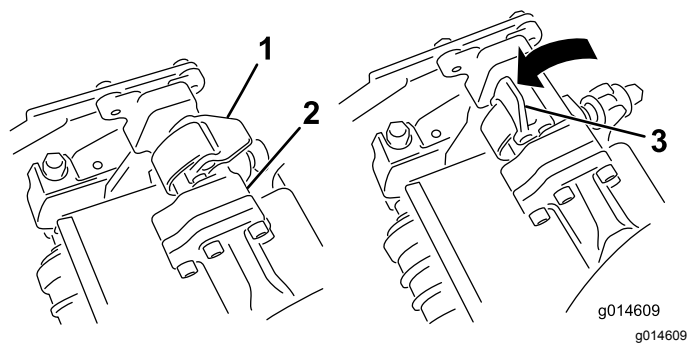

Figure 32
3. With the latches on the suspension-arm bar pointing up (i.e., open) (Figure 32), push the suspension arm down so that the bar fits over the bar across the top of the cutting unit (Figure 33).
4. Close the latches down and around the cutting-unit bar and lock them in place (Figure 32).
- Open the latches on the suspension-arm bar of the cutting unit you are removing (Figure 32).